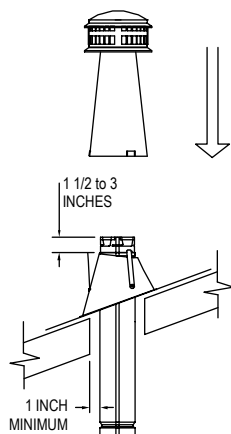
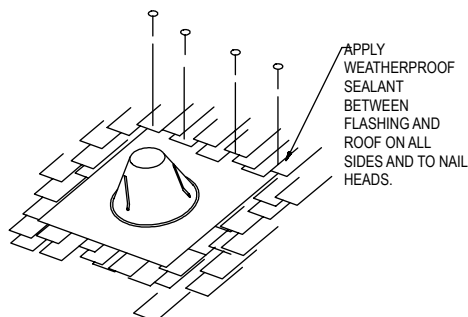

Figure 16
Figure 17
**4. Flashing.** Position the Flashing so the hole is directly over the end of the pipe, as shown in **Figure 16**. Run the top edge of the Flashing under the roof covering, nail as required, and seal with a non-hardening sealant, as shown in **Figure 17**. Seal all nail heads.
**5. Height.** Add sufficient Pipe Sections of B-Vent until the system terminates 1-1/2" to 3" above the collar of the Flashing as shown in **Figure 16**.